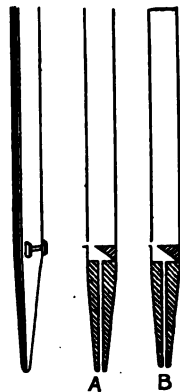

FIG. 373. — Organ pipes: (A) open, and (B) closed.
**404. Wind instruments.** The simplest wind instrument is the organ pipe. Sometimes the tube is open at the upper end and is called an *open pipe* [Fig. 373 (A)]; at other times the pipe is closed at the upper end and is called a *closed pipe* [Fig. 373 (B)].